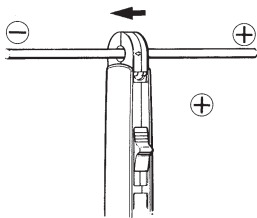

Fig.2
- (1) With the power switch at the DC position, set the range selector switch to the desired range position.
- (2) Before taking measurements, zero adjust the display by turning the DC 0 ADJ knob. To obtain an accurate reading make it a practice to zero adjust before every use. The instrument may go off zero after the range is changed. Also, zero adjust after every change of the range.
- (3) Pull down the jaw trigger to open the transformer jaws and clamp on one conductor only. The current measured will be displayed on the LDC.
- (4) The polarity of DC current is positive (+) when it flows through the transformer jaws in the arrow direction as shown in Fig. 2.